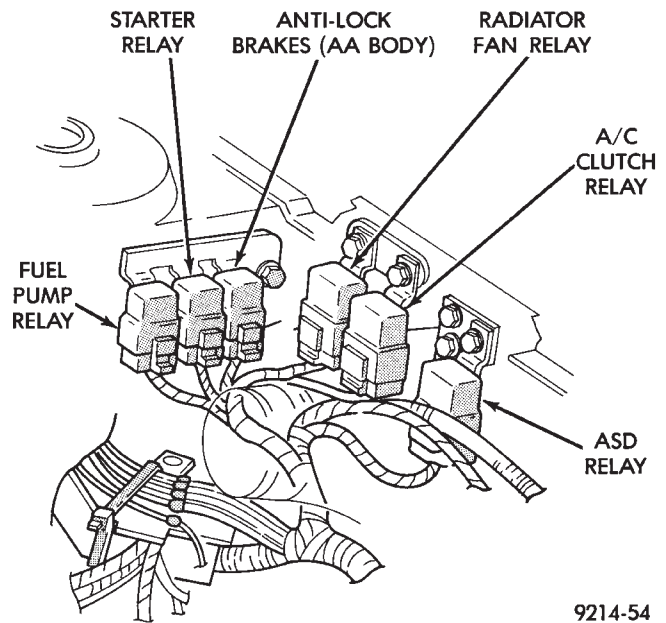
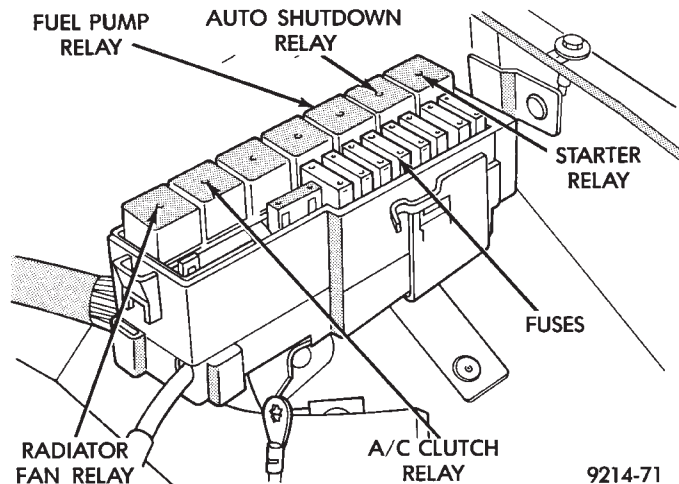

Fig. 11 Engine Compartment Relay Identification AA Body
Fig. 12 Power Distribution Center AG Body
(16) Verify that all electrical connectors are fully inserted into relays and that battery connections are clean and tight (Fig. 11 or Fig. 12).